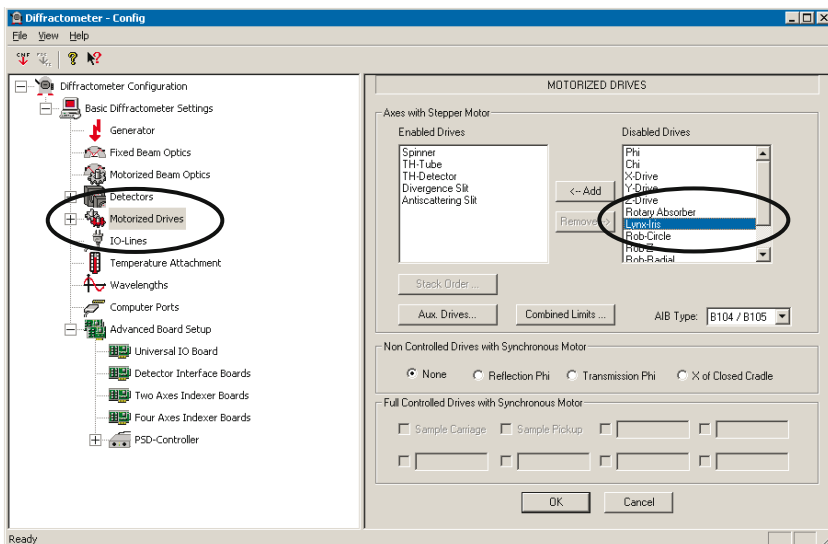

Figure 7.7 Motorized Drives > Define AUX Drive
1. Within the **Motorized Drives** section select **Lynx Iris** in the **Disabled Drives** box. Click on **Add** to move the device to the **Enabled Drives** box (see Figure 7.7).